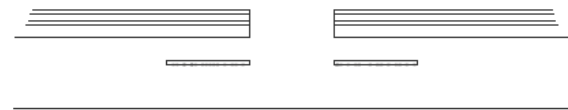

Figure 7
**STEP 11.** Select the flexible lock strip and the lockdown plate. Cut the flexible lock strip in half. Remove the backing from the flexible lock strip. Press one half of the flexible lock strip onto the bottom of the selected tread of one of the mat sections at the tread's end. Press the other half of the flexible lock strip onto the bottom of the corresponding tread of the mating mat section at the mating tread's end (see Figure 7).